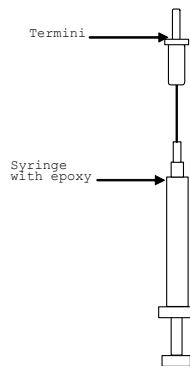

Figure 2. Injecting epoxy into the terminus.
Step 6 - Slide the terminus, rear first, onto the syringe tip (see figure 2). Keeping the syringe vertical, depress the plunger and slowly inject epoxy into the terminus until it escapes out of the ferrule, forming a very small bead. (NOTE: Do not overfill. Be extremely careful not to get epoxy on the socket spring or other terminus moving parts.)